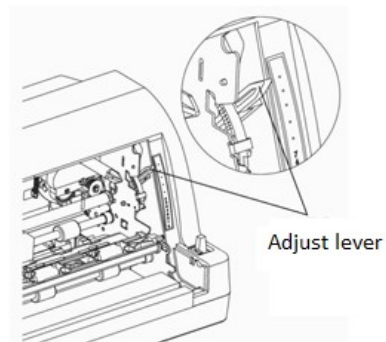

Fig. 1-5
- 2) Move the adjust lever to the top position as Fig. 1-5